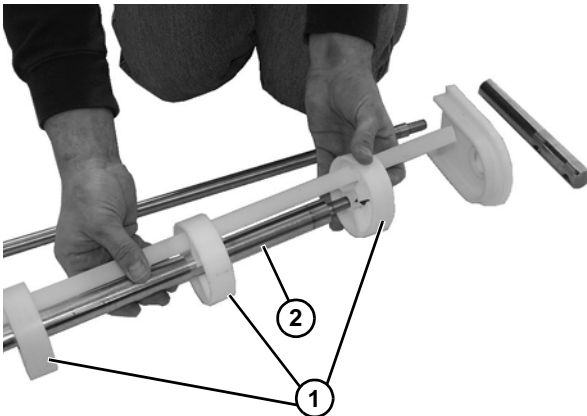

Figure 68
2. Slide all the idler pucks (Figure 68, item 1) along with alignment bar onto idler shaft (Figure 68, item 2).